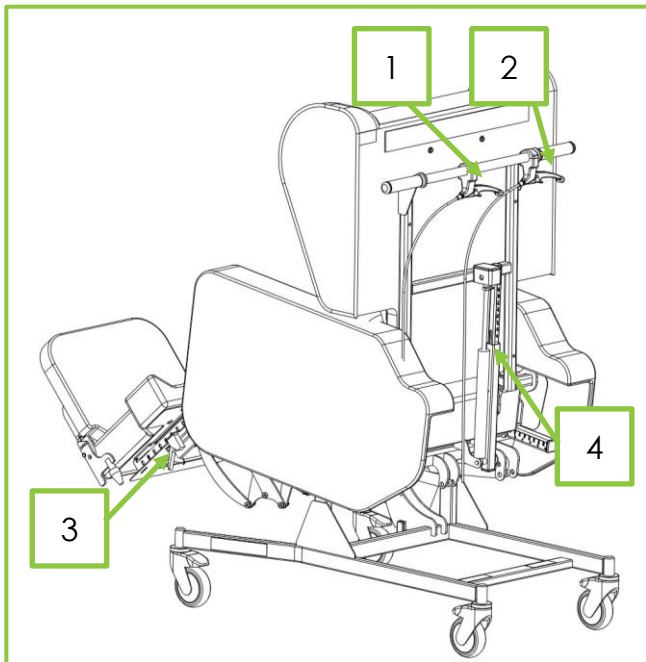
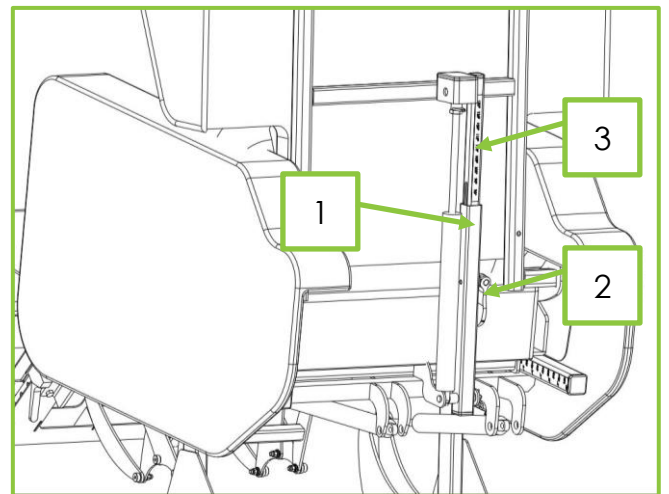

Figure 26 – Overview of controls
Figure 27
1. **Backrest** – The backrest can be adjusted between 90 degrees and 130 degrees from the seat angle; see page 5 for a diagram of this. The backrest lever (Fig 26, Item 1) is used to adjust this angle. The backrest is also fitted with a lockout slide (Fig 26, Item 4.) that can be used to restrict the use of the backrest angle adjustment.
1. **Tilt-in-Space** – The tilt-in-space position can adjust the seat angle from 7 degrees to 37 degrees from the horizontal position; see page 5 for a diagram of this. The Tilt-in- space lever (Fig 26, Item 2) is used to adjust this angle.
3. **Legrest** – The legrest can be adjusted between 75 degrees and 160 degrees; see page 5 for a diagram of this. The Legrest lever (Fig 26, Item 3) can be used to adjust this angle.
3. Locate the locking lever (Fig 27, Item 2) on the side of the backrest lockout slide (Fig 27, Item 1).
5. Pull the locking catch on the backrest lever, then pull the main lever (Fig 26, Item 1). Move the backrest to the desired measurement. The backrest angle measurement can be read off the scale at the top of the backrest adjustment slide (Fig 27, Item 3).
2. Pull and hold the tilt-in-space lever (Fig 26, Item 2) and move the chair to the desired tilt-in-space angle
6. Pull and hold the tilt-in-space lever (Fig 26, Item 2) and move the chair forward to the forward tilt position.
2. Locate the legrest adjustment lever (Fig 26, Item 3).